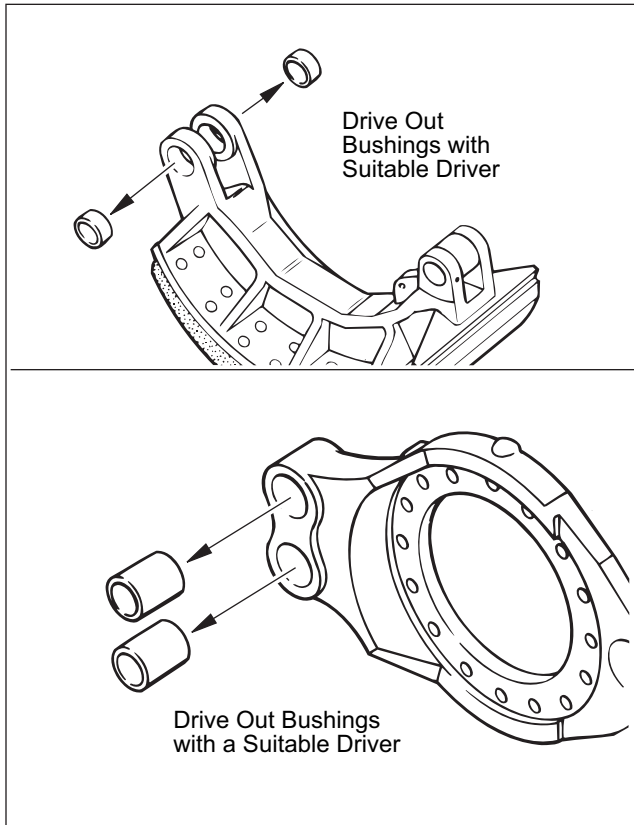

Figure 29. Anchor Pin Bushing Removal
8. Drive out the old anchor pin bushings from brake shoe and spider with a suitable driver. Refer to Figure 29.